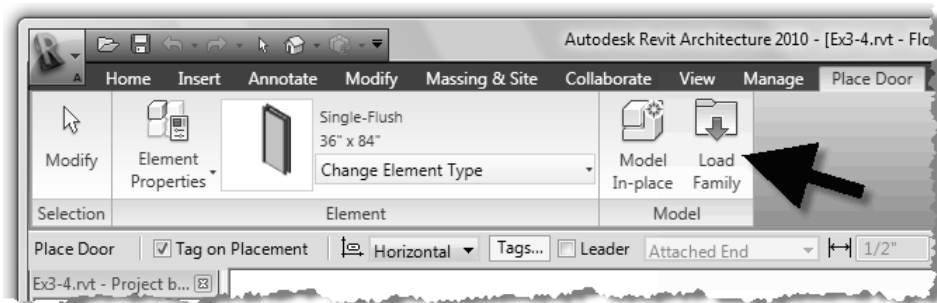

Figure 3-5.1 Load Family
2. With the *Door* tool selected, select the **Load Family** button on the *Ribbon* (Figure 3-5.1).